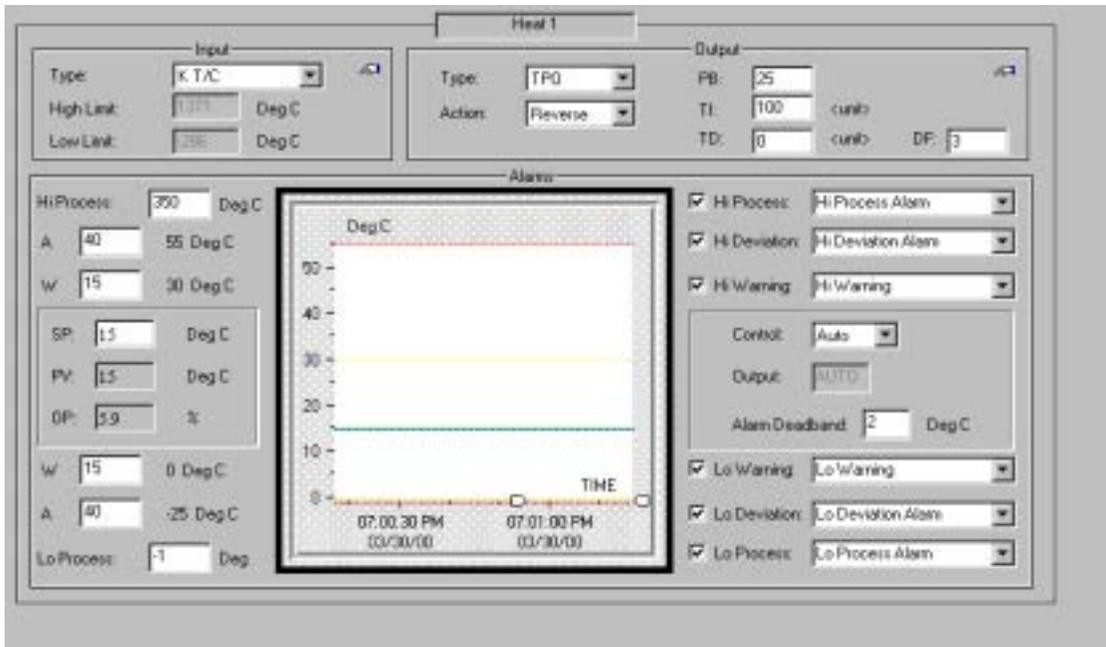

Figure 24
- b. Channel Setup Screens display all the data for the individual channels. It also serves to allow the user to enter control and alarm setup information. Click the Channel Setup icon on the main toolbar or from the menu bar click Window then Channel Setup. **See Figure 24.**